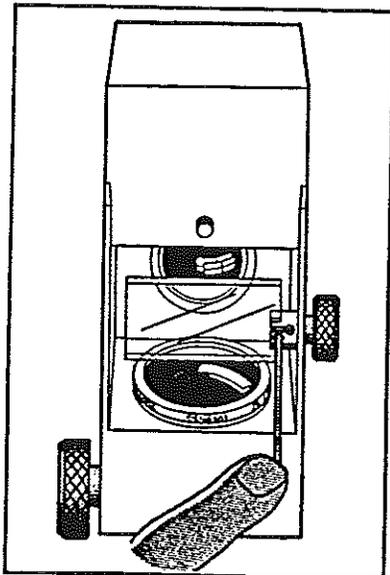

Fig. 21
- (g) Using the allen key provided, carefully adjust the grub screws in the top and bottom of the mirror mounting boss until the spot of light is correctly aligned on the horizontal axis (Figs. 21 & 22).